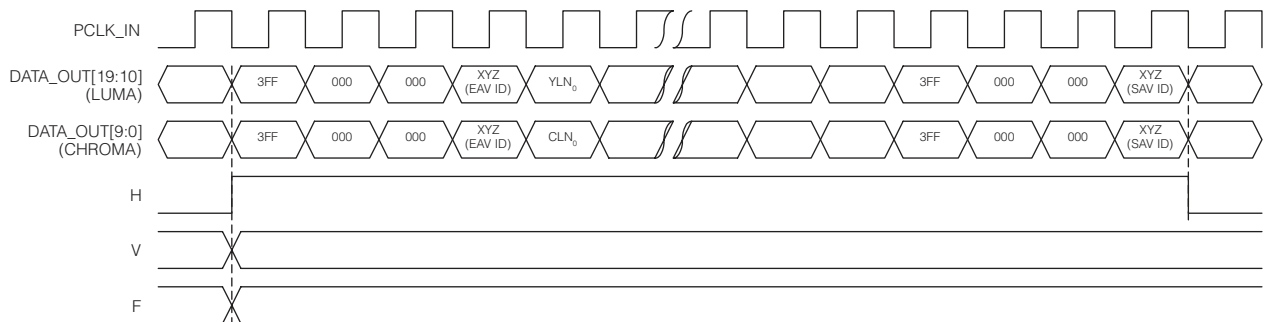
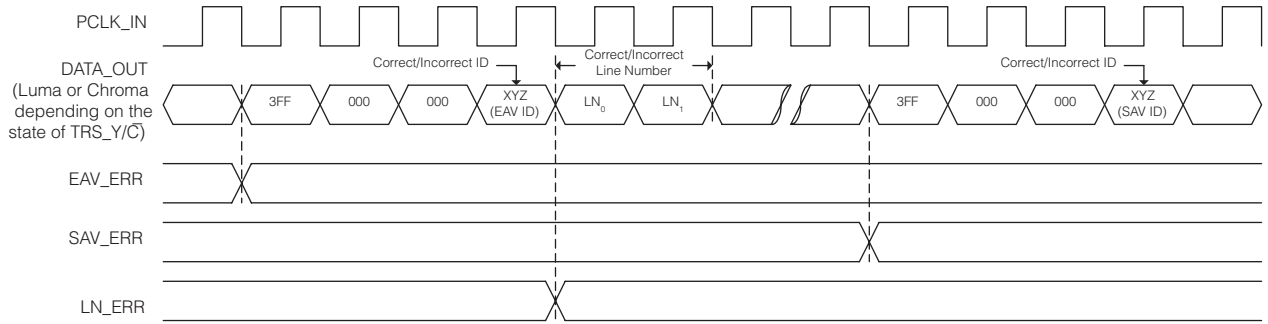

Fig. 2 HVF Timing
Fig. 3 EAV\_ERR, SAV\_ERR and LN\_ERR Timing
The flywheel logic will check the incoming video data for valid video lines. If the incoming data represents a valid line, the flywheel remains in sync with the incoming data. If the incoming data represents an invalid line, the flywheel will use the stored timing information for the past valid line to generate the output HVF timing signals until three (3) consecutive lines having identical timing are detected. In this case, the new timing information will be saved and the flywheel operation is updated to this new timing. Mismatches between the HVF information decoded from the data stream and that indicated by the flywheel will trigger the EAV\_ERR and SAV\_ERR signals as shown in Figure 3. HVF output timing is shown in Figure 2.